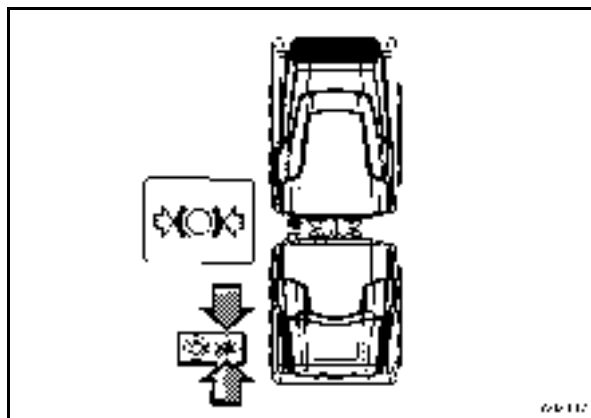

Fig. 45
- Travel lever (Fig. 45) in middle position. The machine will brake.